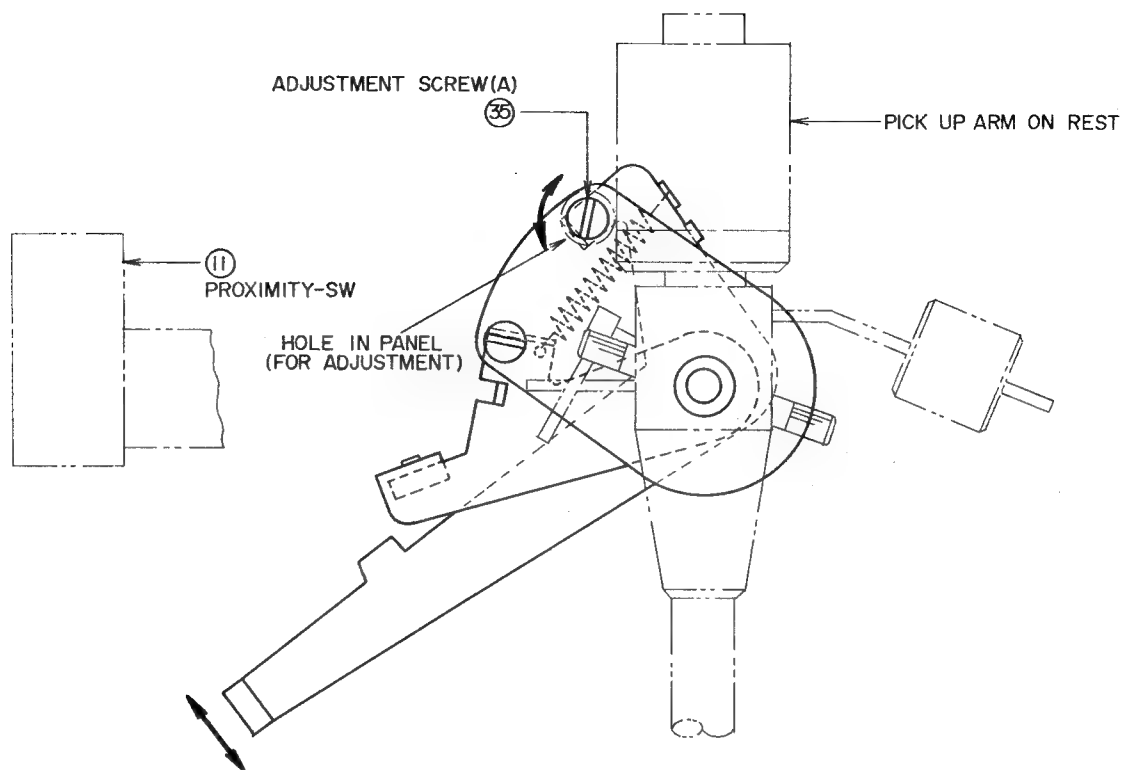

Fig. 12
(1) LEAD OUT POSITION
Stationary the pick-up arm on arm rest and remove the rubber plug on panel toward the rear part of the pick up arm, when adjustment screw (A) (Fig. 12) is turned to the right through the hole in panel with a (—) screw driver, lead out will be sooner and when turned to the left, lead out will be delayed.